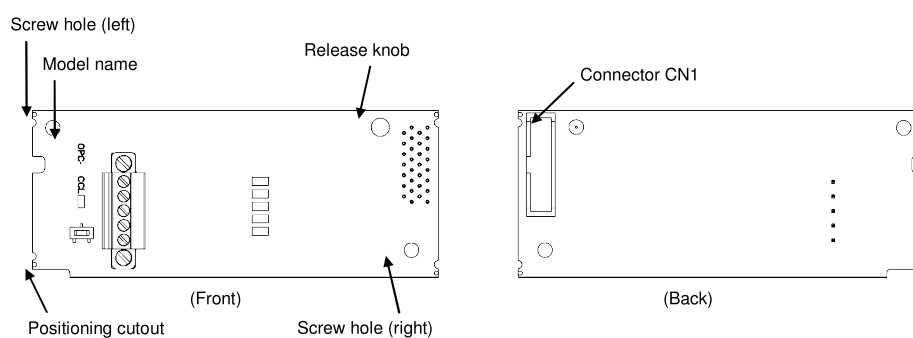

Figure 1.1 Names of Parts on CC-Link Communications Card
- (1) A communications card, two screws (M3 × 8), and the CC-Link Communications Card Instruction Manual (this manual) are contained in the package.
- (2) The communications card is not damaged during transportation--no defective parts, dents or warps.
- (3) The model name "OPC-CCL" is printed on the communications card. (See Figure 1.1.)
- (2) Insert connector CN1 on the back of the communications card (Figure 1.1) into the option connection ports on the inverter's control PCB. Then secure the communications card with the two screws that come with the communications card. (Figure 3.2)
**Note** Check that the positioning cutout (shown in Figure 1.1) is fitted on the tab (① in Figure 3.1) and connector CN1 is fully inserted (② in Figure 3.1). Figure 3.2 shows the communications card correctly mounted.
- (3) Perform wiring on the communications card.